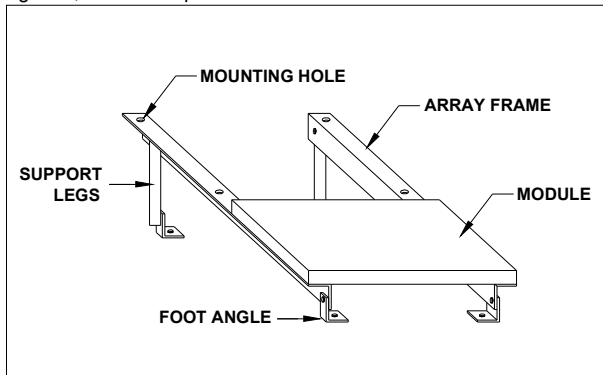

Figure 2. Basic Rack or Stand-off Mounting Structure
The minimum spacing of 15mm (0.6") is required between PV module and the mounting surface around the perimeter of PV module. The frame of each PV module has 9mm (0.35") diameter mounting holes (Refer to Module Mounting Specifications). These are used for fixing PV modules to the supporting structure. PV module frames must be attached to a support structure using M8 (5/16") stainless steel screw in a minimum of four (4) places symmetrical on PV module. The stainless steel screw used for fixing the module frame should secure with an adequate torque. (usually, 19 N-m (14 ft-lb).) An example of a ground mounted structure is shown in Figure 2. The four holes close to the corners of the module are most often used for installation. Refer to the Mounting Specifications for the position of these holes. Clearance between PV module frame and the mounting surface may be required to prevent the junction box from touching the surface, and to circulate cooling air around the back of PV module. Spacing between PV modules must be a minimum of 1/8" (3.2 mm) to allow for thermal expansion. If the modules are to be installed on the roof or wall of a building, the stand-off method or the rack method is recommended.